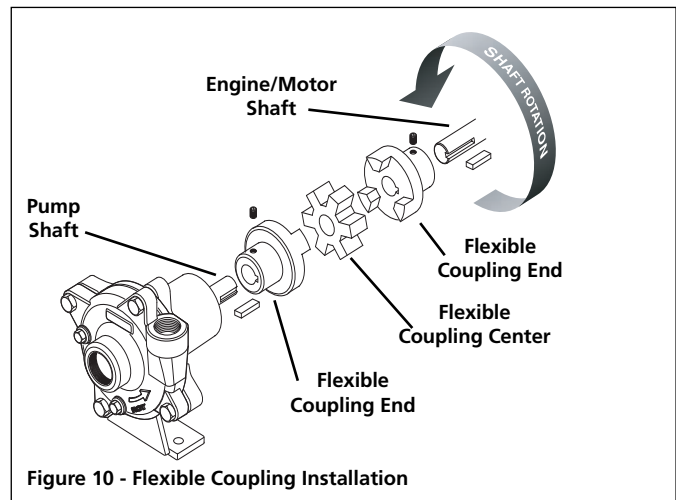

Figure 10 - Flexible Coupling Installation
1. Slide the flexible coupling ends onto the motor/engine and pump shafts as far as possible (See Figure 10).
4. When aligned, slide the flexible coupling ends over the flexible coupling center; then secure the flexible coupling ends to the motor/engine and pump shafts (See Figure 10).